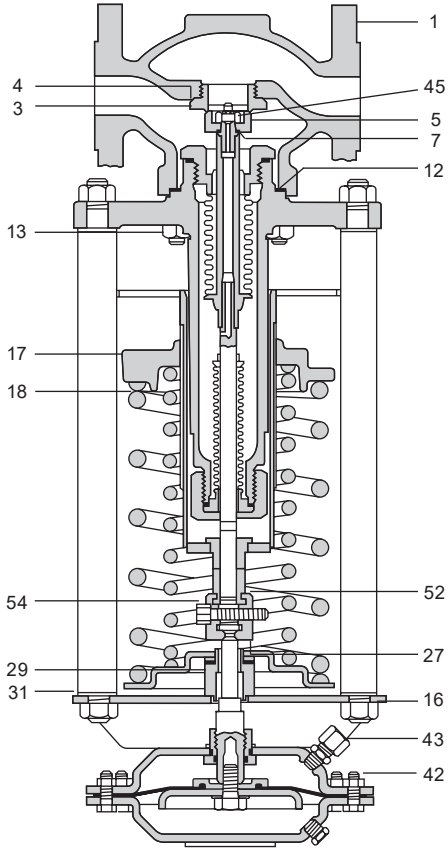

Fig. 13 DN25 to DN50 (Part 42 not shown)
4.4.5 To renew valve head and seat (Figure 13):
- Rotate spring adjuster (17) to reduce spring(s) (18) compression to zero.
- Remove bonnet nuts (13) and withdraw bonnet/actuator from the valve body (1).
- Unscrew and remove the valve head self-locking nut (45), valve head (5) and the head seal (7 on DN25 and larger sizes).
- Using new head seal (7) fit the replacement head (5) and self-locking nut (45), tightening to eliminate any free play of the valve head.
- Replace the complete bonnet assembly into the valve body (1) using new gasket (12).
- Refit bonnet nuts (13) and tighten to the recommended torque given in Section 4.2.
4.4.6 To renew needle bearing assembly (Figure 13):
- Disconnect upstream pressure signal line from actuator coupling (43) and remove actuator from the valve as described in Section 4.4.1.
- Unscrew and remove pillar nuts (16) and remove mounting plate (31), bearing locator (29) and needle bearing (27).
- Refit replacement needle bearing applying additional general purpose grease if necessary and ensuring correct location with bearing locator (29).
- Refit mounting plate (31) and replace pillar nuts (16), tightening to the recommended torque given in Section 4.2.
- Refit actuator assembly ensuring correct location within the coupling clamp (52) and tighten clamp screw (54).
- Refit actuator nuts (42), tightening to the recommended torque given in Section 4.2.